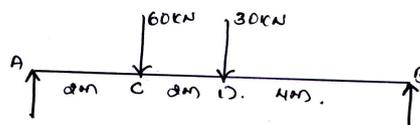

Fig.Q3(b)
- b. A SSB spanning 8m carries concentrated loads of 60 kN and 30 kN at a distance of 2 m and 4 m from the left support. Determine the slopes at the ends and location and magnitude of the maximum deflection. Assume  $E = 200 \text{ GPa}$  and  $I = 20 \times 10^8 \text{ mm}^4$  (Macaulay's method). [Refer Fig.Q3(b)]